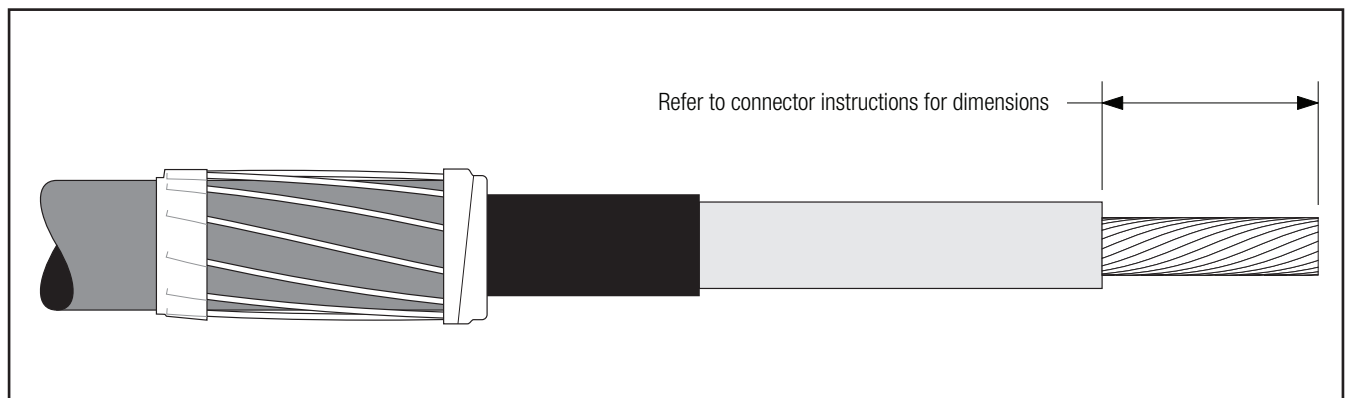

Figure 6
- 3.1 **If using a 3M Shearbolt Connector QCI 2-250**, refer to the instructions included with the connector for insulation cut-back dimension. Insulation removal length shall not exceed 2" (51 mm) from conductor end (*Figure 6*).